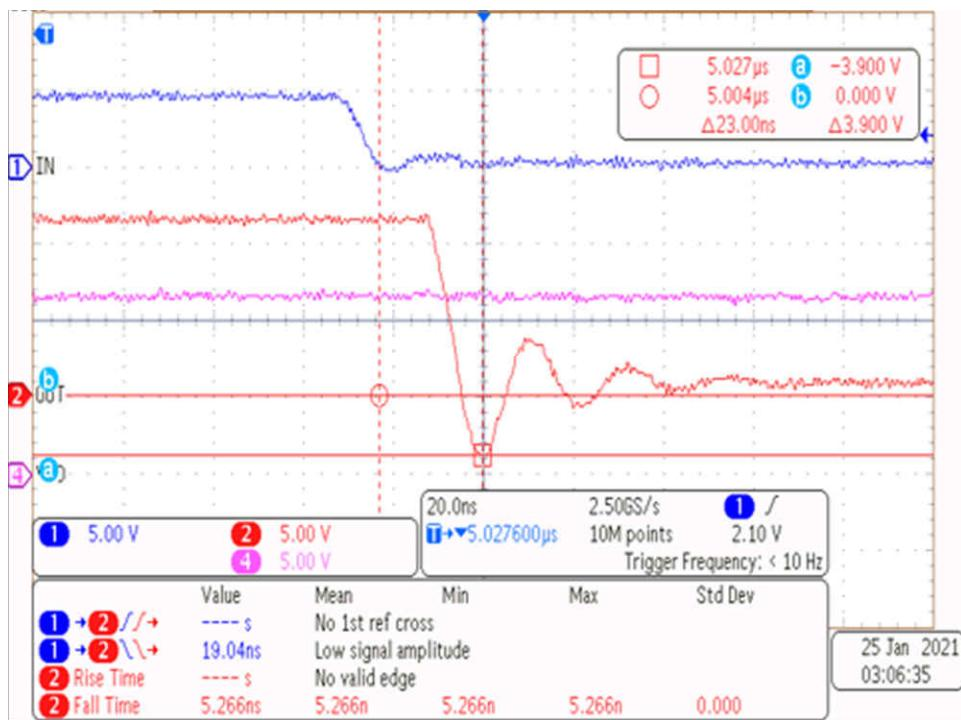

Figure 6-2. Fall Time and Falling Propagation Delay
- Function generator Ch-A channel applied on INA_IN, see in Figure 6.2;
- Power supply #1: positive node connected to input of DMM #1 and DMM #1 output connected to test point marked as VCC, negative node of Power Supply #1 connected directly to test point marked as GND; see in Figure 6.2;
- Connect oscilloscope Ch-1 probes to test points marked as Gate_A & GND, smaller measurement loop is preferred; see in Figure 6.2;